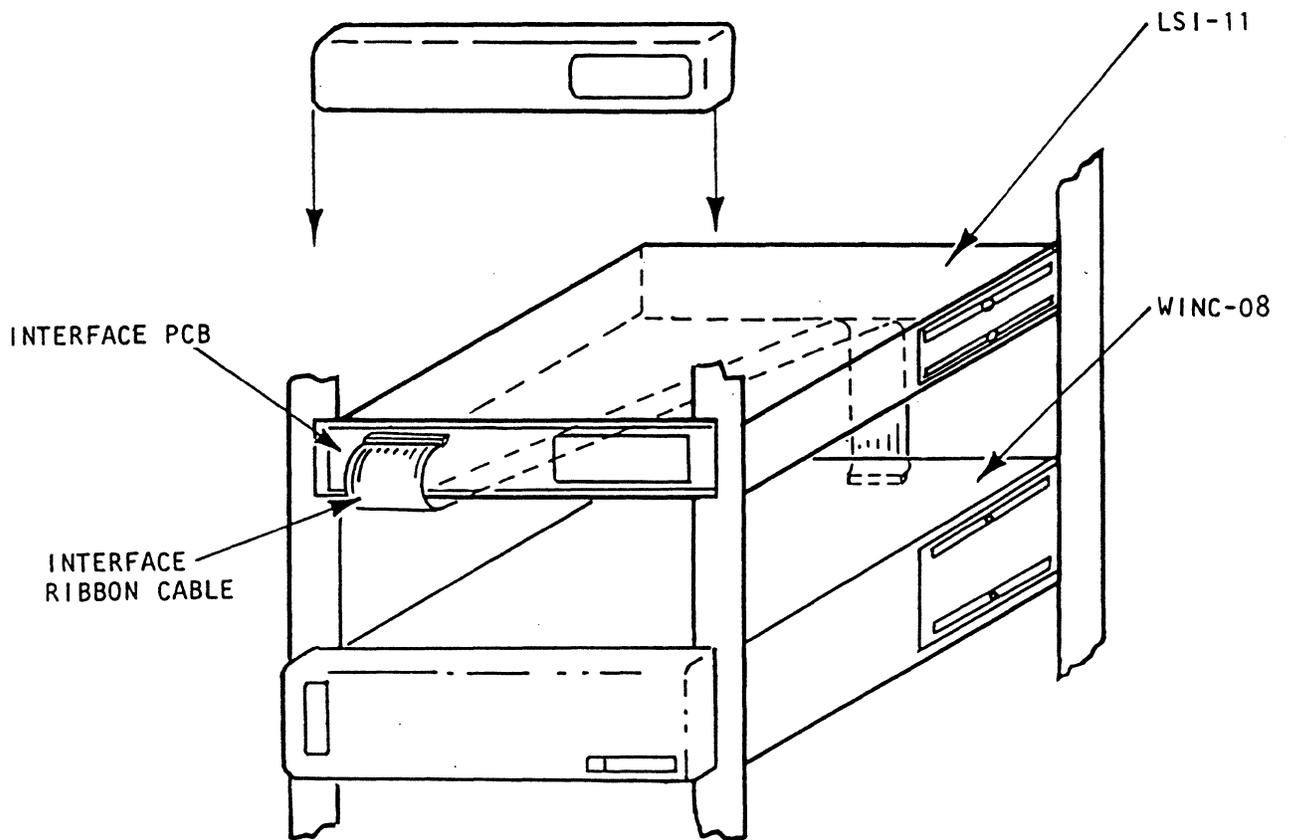

Figure 2-7. LSI-11 Installation
- b. Remove the LSI-11 front bezel (pull straight out on bezel). See Figure 2-7.